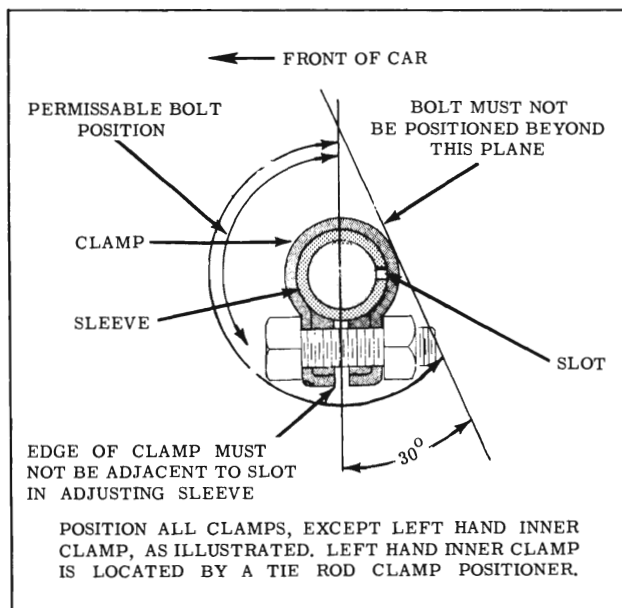

Fig. 5-31 Tie Rod Clamp Positioning
3. When adjustment has been completed according to the recommended specification, and tie rod and ball studs are riding squarely in their seats, position inner clamps as shown in Fig. 5-31.